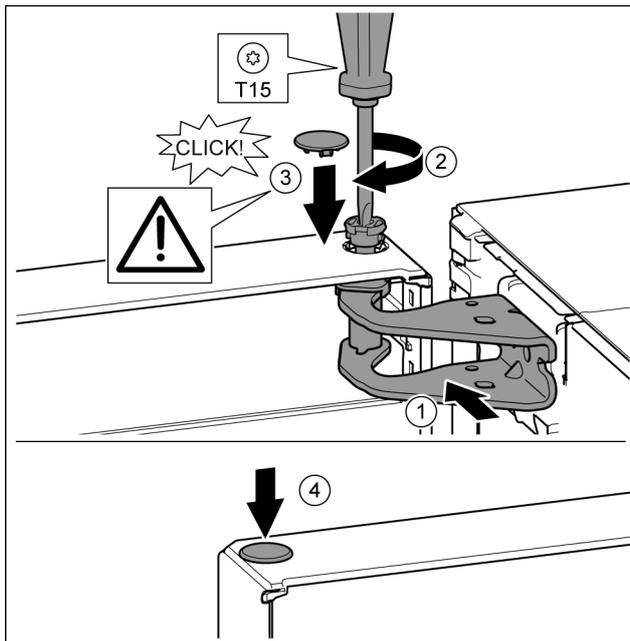

Fig. 20
- ▶ Align the top of the door with opening in the bearing bracket. Fig. 20 (1)
- ▶ Insert the bolt and tighten with a T15 screwdriver. Fig. 20 (2)
- ▶ Fit the protective cover to protect the door: Insert the protective cover and check that it is attached to the door. If not, insert the bolt fully. Fig. 20 (3)
- ▶ Insert the plugs. Fig. 20 (4)